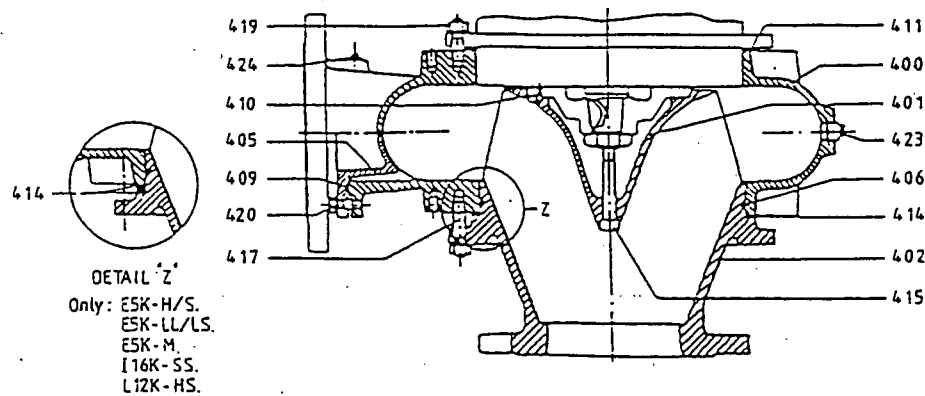

Figure 16: E5K, E8K, F6K, F10K, H8K, H12K, I10K, I16K, L12K, L20K: Non-Regulable.
These pumps have a one-piece suction cover (402) which is bolted to the volute casing (400) by studs and nuts (417). Adjustment of clearance is by shims (411) between the volute casing and the motor. Note that on certain models there may be a spacer ring (414) between mating surfaces of the suction cover and the volute casing. When there is excessive wear on the conical surface, the suction cover (402) should be replaced. See Figure 16.
(See Figure 16)**